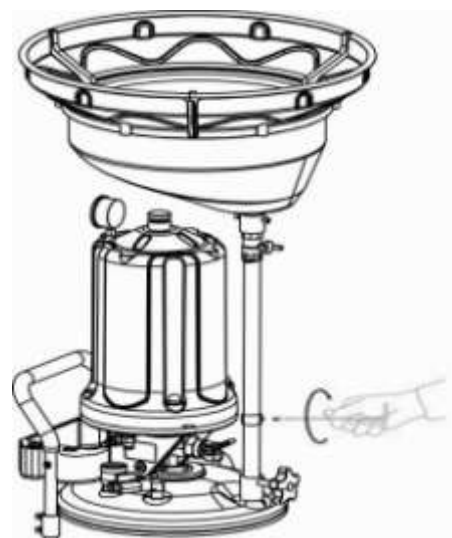

FIG.2
3. FIG.2 With air gauge face with support handle position, connect the cylinder into the oil tank base, while ensure the cylinder in the right direction, fix with screws. Please lift up the oil tray above cylinder with 1cm height during installation of cylinder. Fix the lifting pole to position to avoid rubbing against each other.